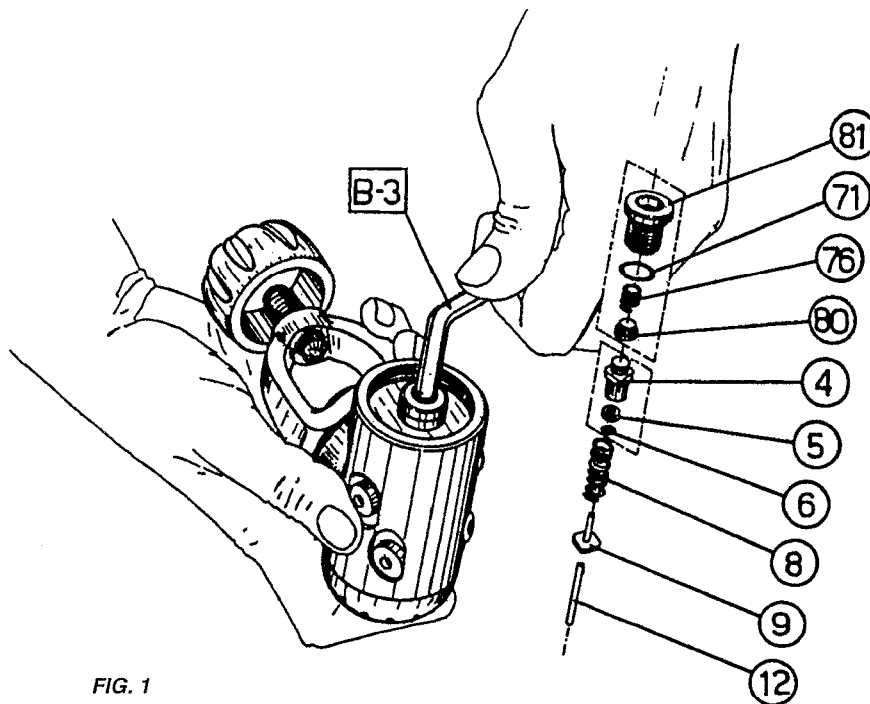

FIG. 1
1. Unscrew the perforated cap (155) from the first stage.
3. Remove the O-ring (71), the anti-drag head (80) and the spring (76) from the first stage plug assembly.
4. Remove the HP chamber assembly (4-5-6), the spring (8), the first stage poppet (9) and the poppet pin (12) from the first stage body (1). (Fig. 1).